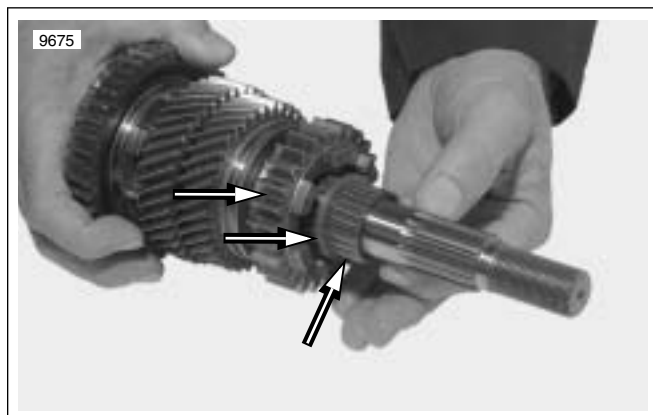

Figure 7-19. 5th Gear Installation
1. See Figure 7-19. Install 5th gear ground washer and split cage bearing.